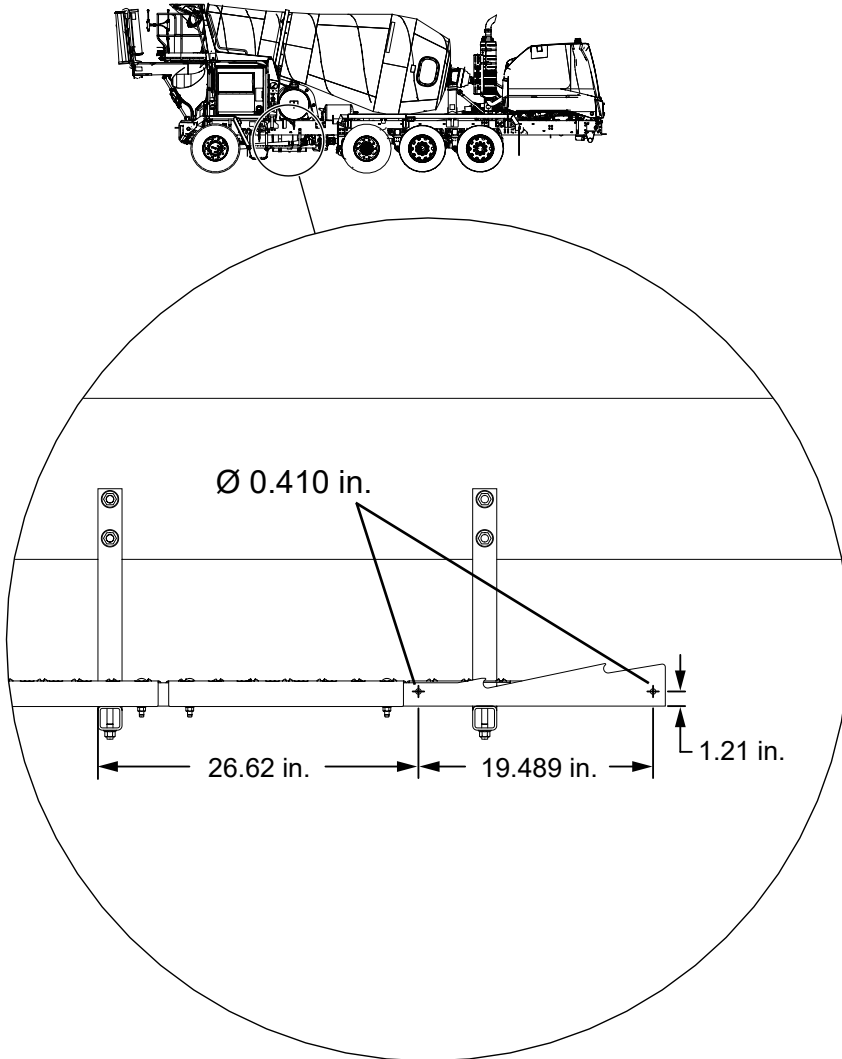

Figure 1
- 3. Drill two 0.410 inch mounting holes in each chute rack angle bracket. See Figure 1 for hole locations.